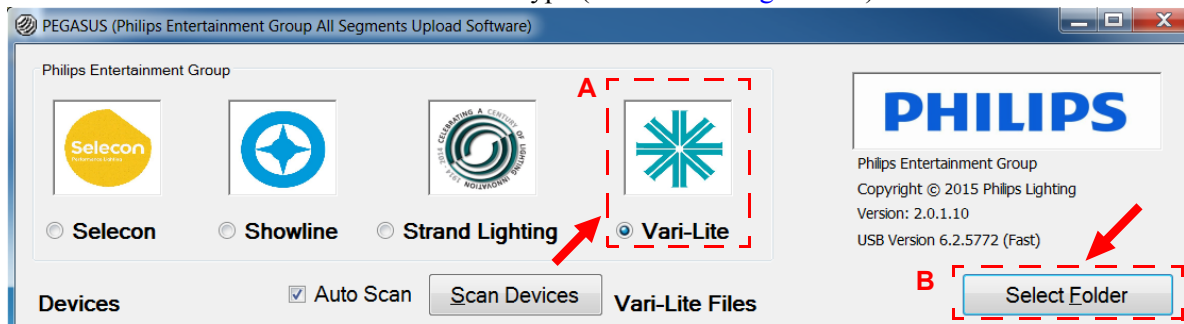

Figure 3-4: PEGASUS Software Selection Screen
- a. Select Vari-Lite for luminaire type (as shown in Figure 3-4.).
- b. As indicated in Figure 3-4, click on Select Folder button to open browser window.